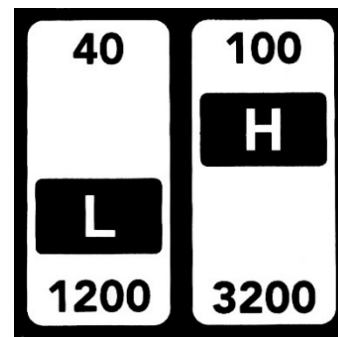

Figure 7-14
4. There should be sufficient slack in the belt to reposition it to the other steps on the sheaves. The label on access door shows required belt position (also shown in Figure 7-14).
5. Loosen pivot lock handle (A) and lower motor to tension belt. Be sure that Poly-V grooves of belt seat properly in corresponding groove of